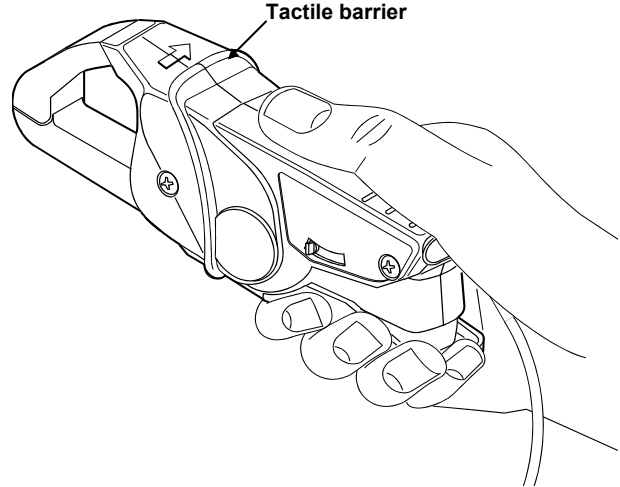

Figure 1. Safely holding the Current Clamp
- Do not hold the Current Clamp beyond the tactile barrier, see Figure 1.